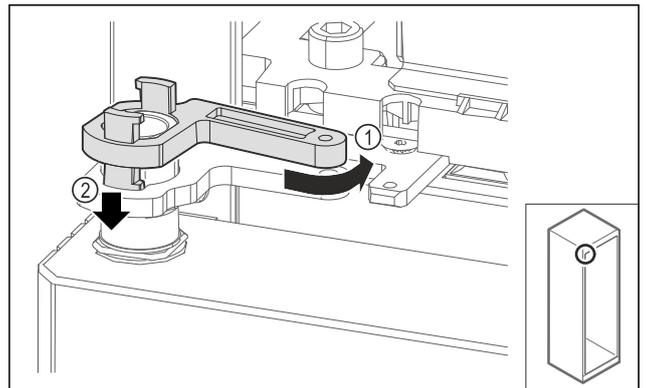

Fig. 63
- ▶ Turn the swap bearing block lock back slightly Fig. 63 (1), press it down Fig. 63 (2) and lock it at the hinge bracket.